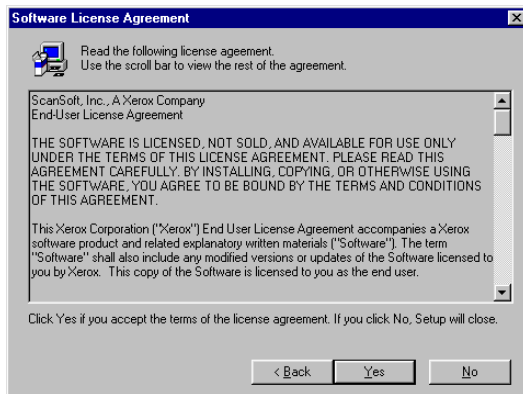

Figure 7: Licence agreement
- Click on 'Next'. Figure 7 will appear.